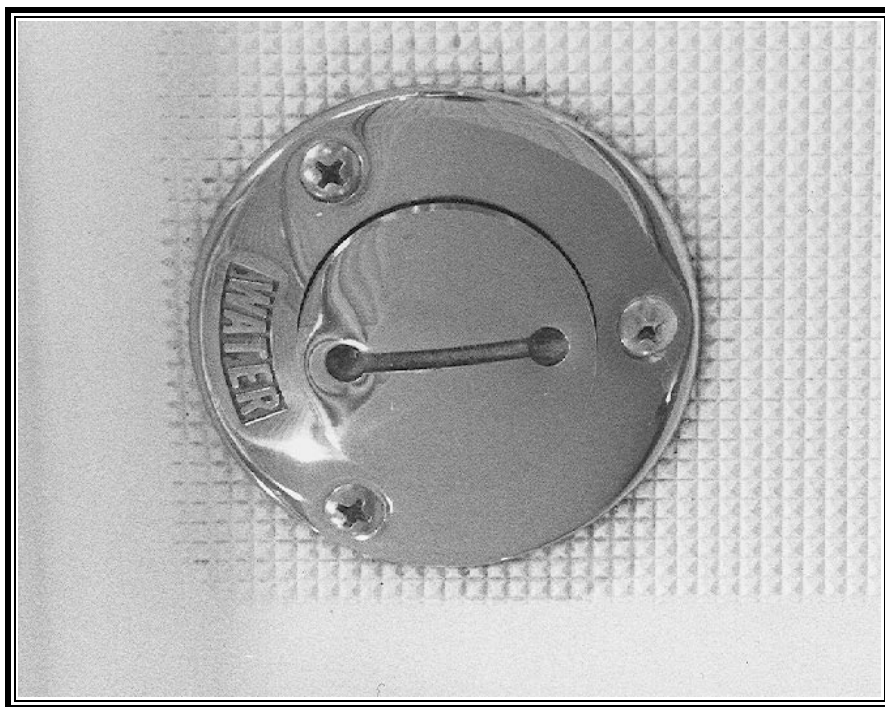

Figure 4-4: Water Fill
5. Fill the fresh water tank with fresh water. The fill is located on the starboard side deck, near the helm area (see Figure 4-4). The tank should be filled until water runs out of the vent on the hull side, just below the fill.